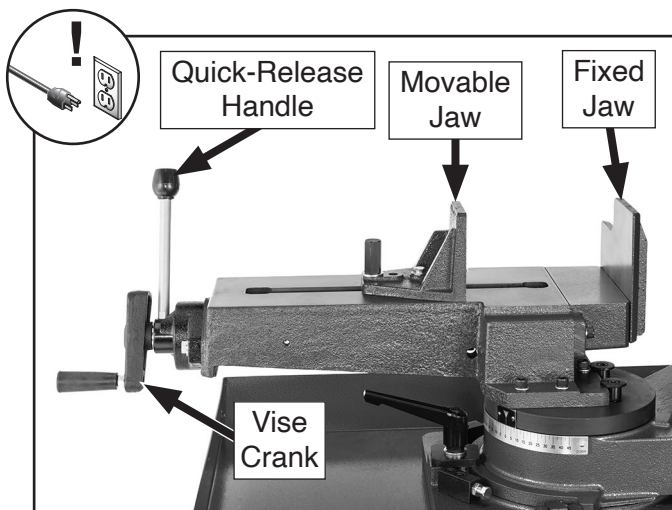

Figure 50. Vise assembly.
- Move vise quick-release handle up (see **Figure 50**).
- Use vise crank to open vise jaws wide enough to accept workpiece (see **Figure 50**).